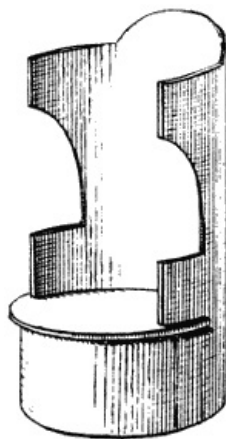
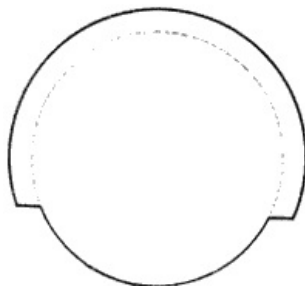

FIG. 102.
FIG. 103.
*A Doll's Easy Chair.*—Apart from accurate and careful cutting there is not very much difficulty in this. Take a mantle case and remove the covers. Now draw a line from end to end and use this as a base line, measuring the distances to right and left to the different points: this will ensure accuracy. Fig. 102 shows one design suitable for the purpose; but you will possibly like to make up your own. The fitting of the seat is done as follows: On a piece of cardboard mark out a circle having the same radius as the case, and another circle with a radius  $\frac{1}{8}$  in. larger. Cut this out as shown in Fig. 103. Now cut a slot a little more than half-way across the case from the front, at a level suitable for the seat, and into this slide the seat. If the slot has not been cut far enough [pg 85]